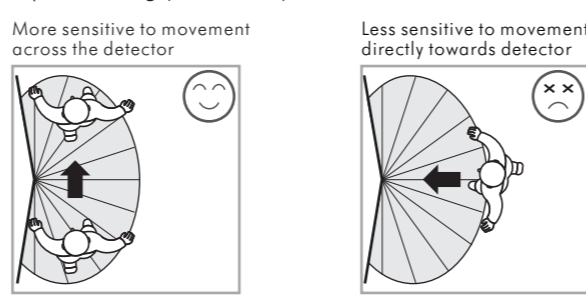

FIG.5
3.1.3 Pay attention to the walking direction in the test proceeding (See FIG.5).